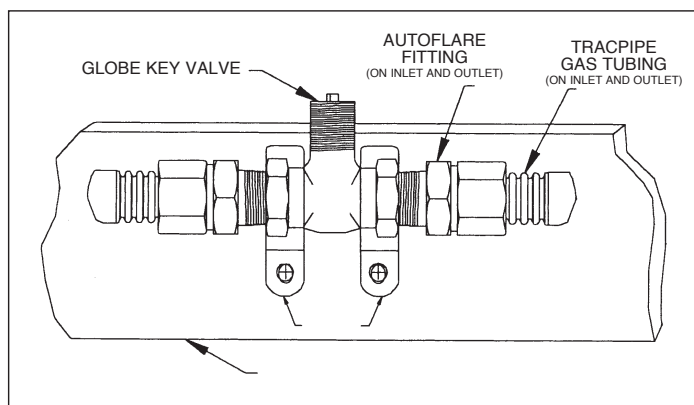
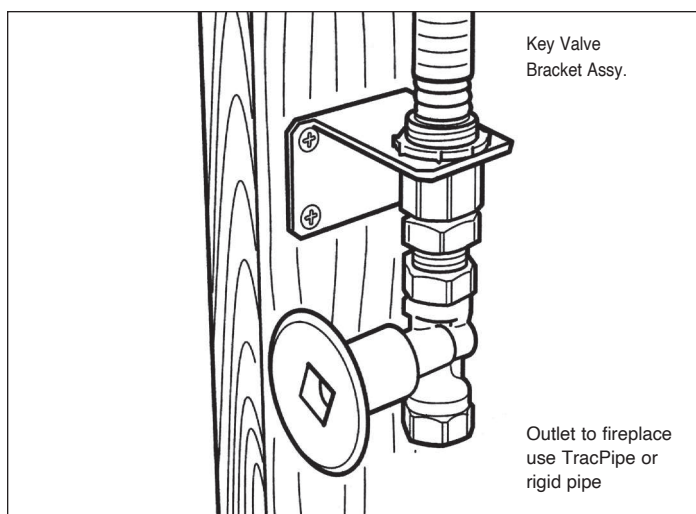

Figure: 4-14
Figure: 4-15
2. Flexible piping connections to fireplace “key valves” can be located in a concealed location, when accessibility is not readily provided. See Figure 4-14 and Figure 4-15 for typical key valve mountings.